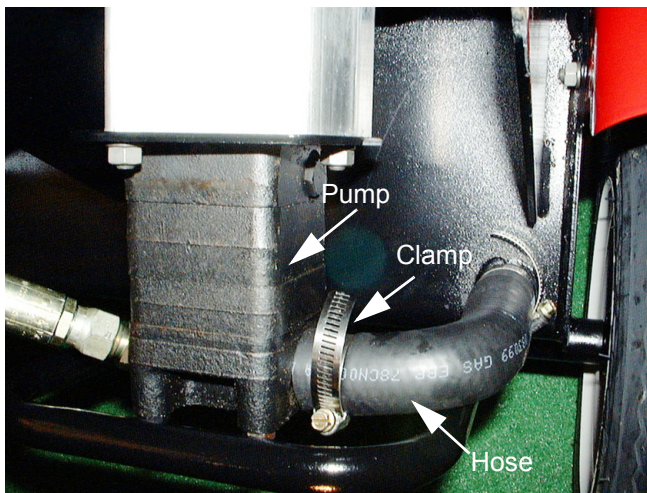

Figure 6
8. Loosen the hose clamp securing the suction hose to the hydraulic gear pump using a 5/16" socket or a flat-blade screw driver. See Figure 6.